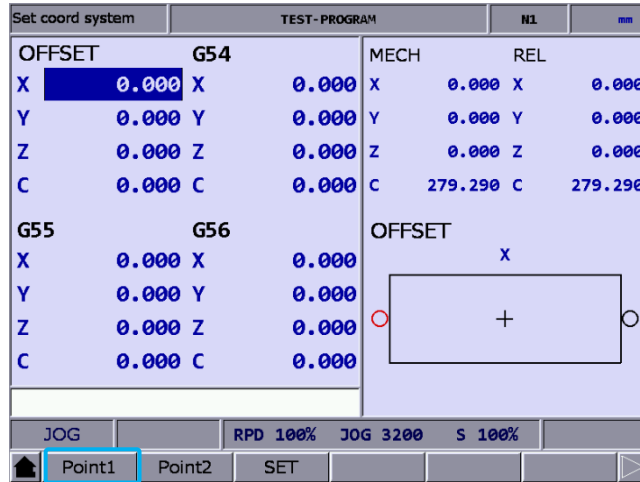

Figure 8.1.1.1
- (7) Press **Point1** and the circle on the left side of the rectangle becomes red, as shown in Figure 8.1.1.1, meaning the machine coordinates of the first point is recorded.